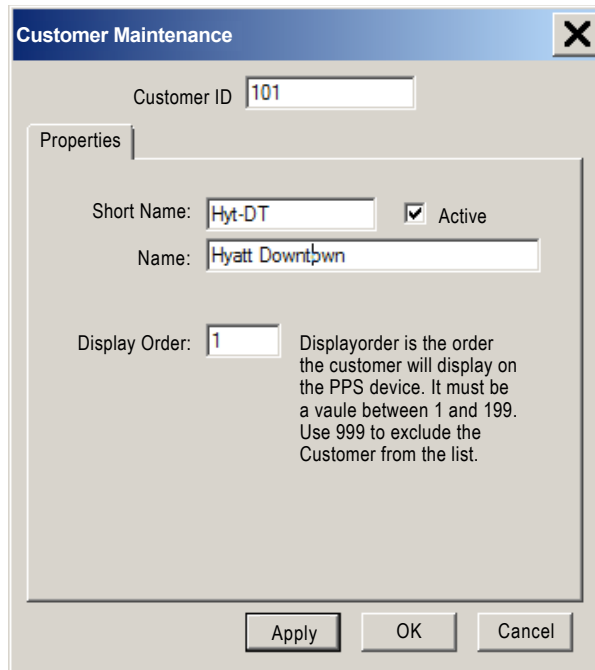

Figure 12. Customer Maintenance dialog.
5. Complete the **Name** and **Display Order** fields (see Figure 12).
3. Modify the information and click **OK** (see Figure 12).